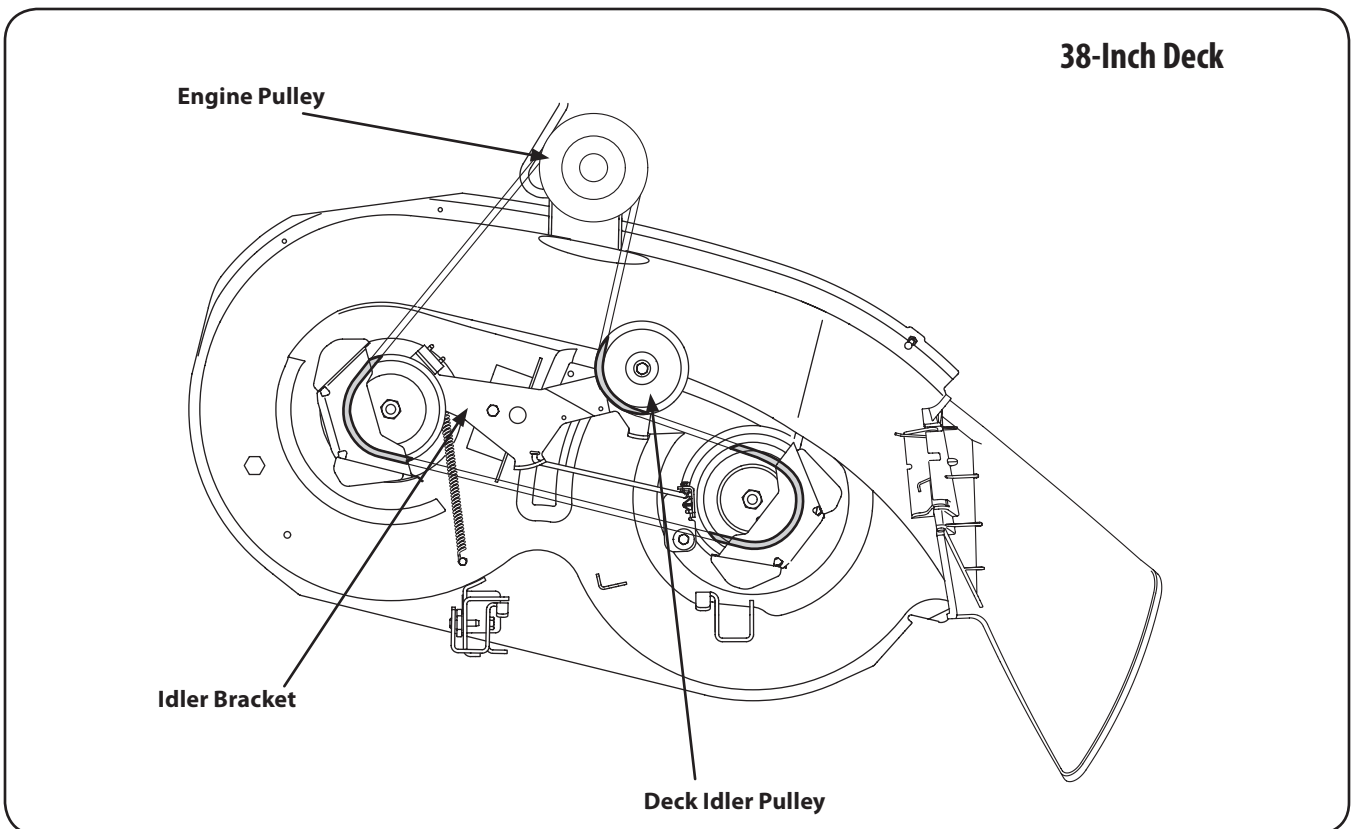

Figure 7-7
6. Route the new belt as shown in and Fig. 7-7, 7-8 or 7-9, depending on your specific sized deck.